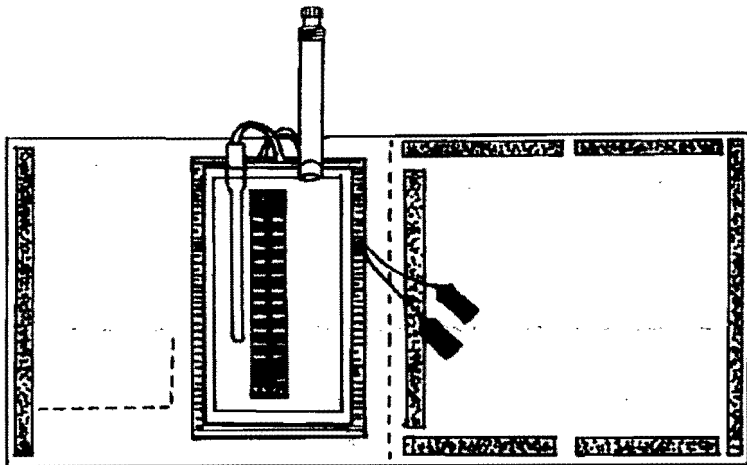

Figure 2
6. Place electronic board in place behind the heating pad allowing battery terminals to exit to the right (Figure 2)